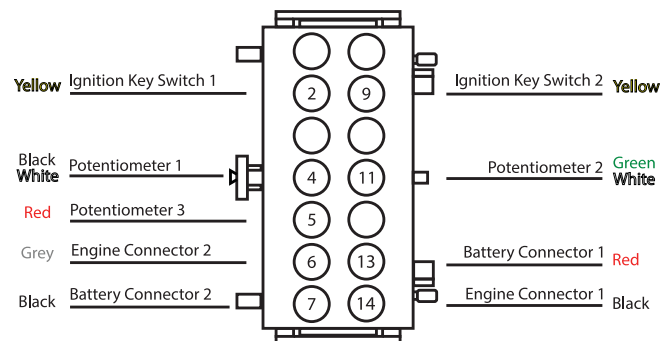
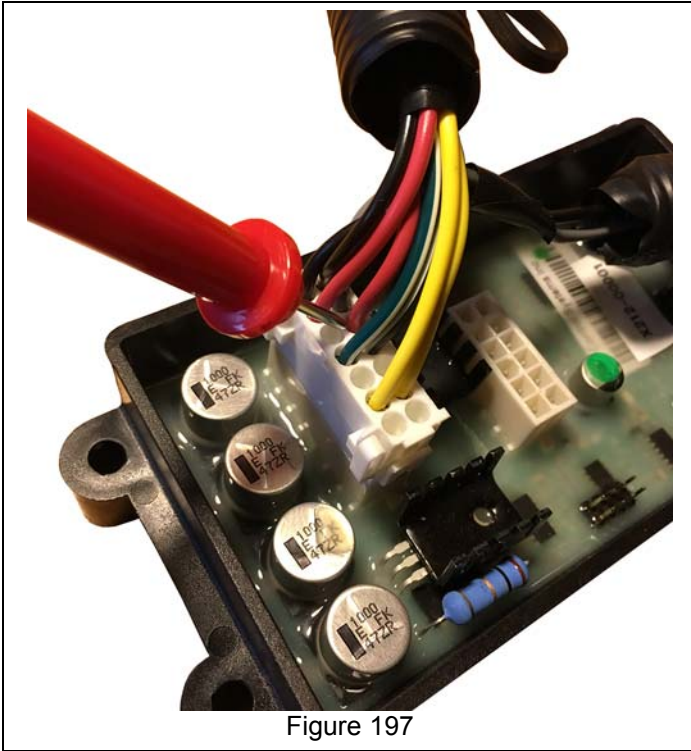

Figure 196
Figure 197
1. Set a multi-meter to ohms (Ω) and measure the potentiometer resistance. See Figure 196 and Figure 197.
- b. Position the red probe on the terminal of the red wire at the potentiometer (Pin 5 in Figure 196) and the black probe on the terminal of the green / white wire.
- b. Position the red probe on the terminal of the red wire at the potentiometer (Pin 5 in Figure 196). Also see Figure 197.